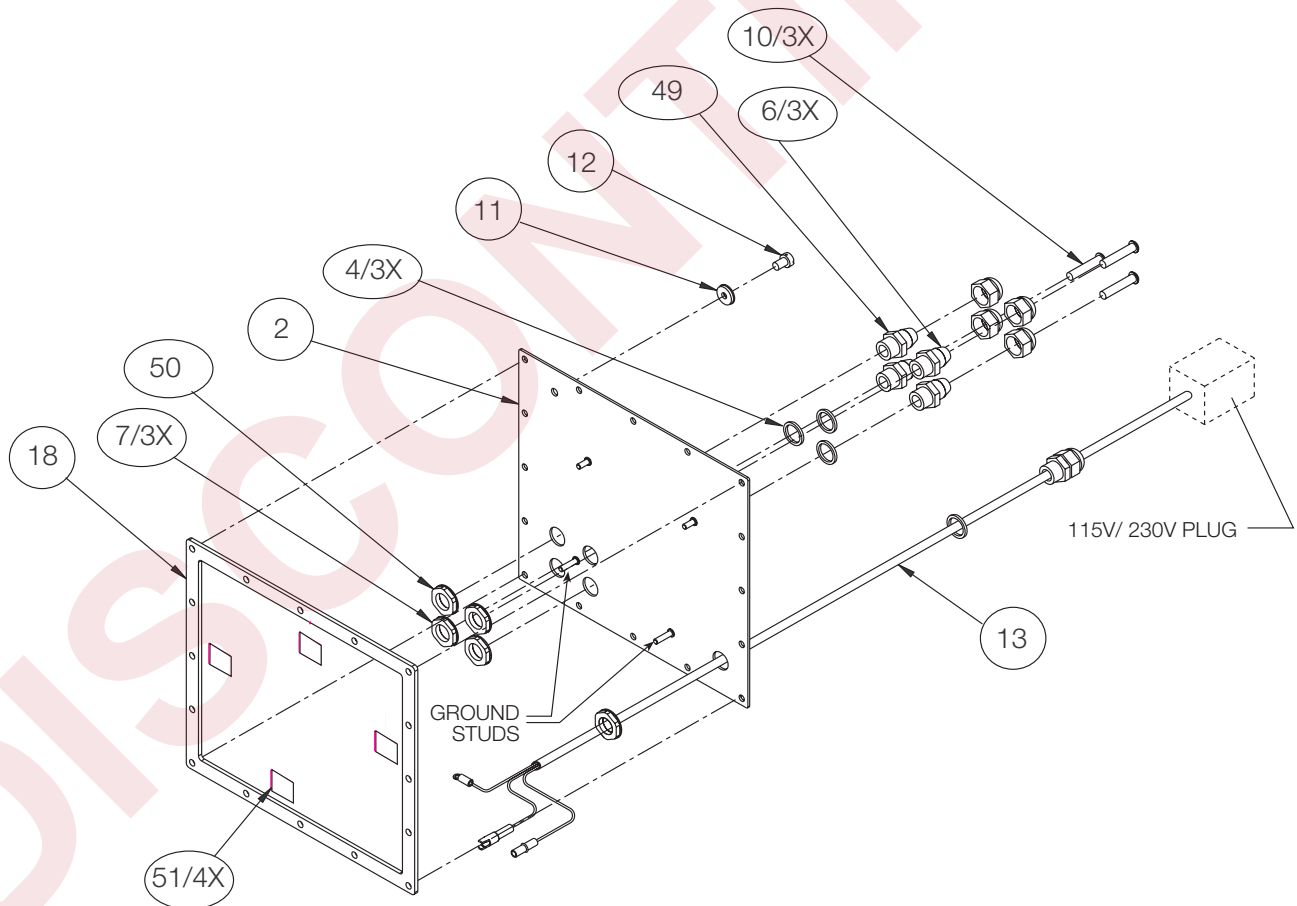

Figure 2-6. Backplate Assembly
Table 2-5 lists replacement parts for the IQ plus 510, including all parts referenced in Figures 2-6 through 2-9.
| 2          | 41398  | Enclosure backplate (1)                           | Figure 2-6 on page 9   |
| 4          | 30375  | Nylon seal rings for cable grips (3)              | Figure 2-6 on page 9   |
| 6          | 15626  | Cable grips, PG9 (3)                              | Figure 2-6 on page 9   |
| 10         | 19538  | Cable grip plugs (3)                              | Figure 2-6 on page 9   |
| 18         | 41400  | Backplate gasket (1)                              | Figure 2-6 on page 9   |
| 49         | 50959 | Metal cable grip, PG9 (1)                  | Figure 2-6 on page 9              |